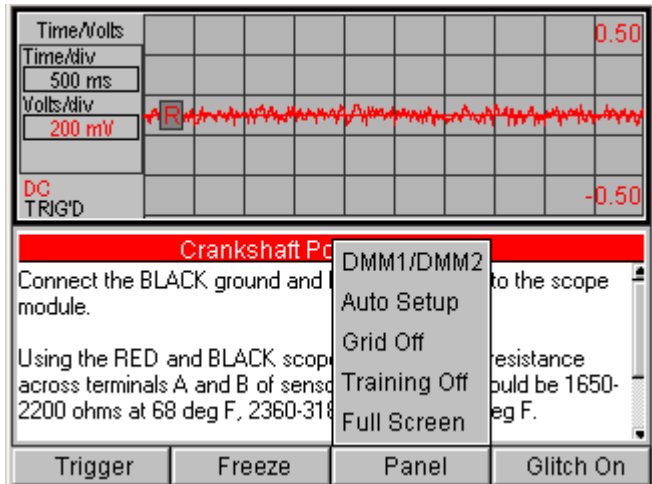
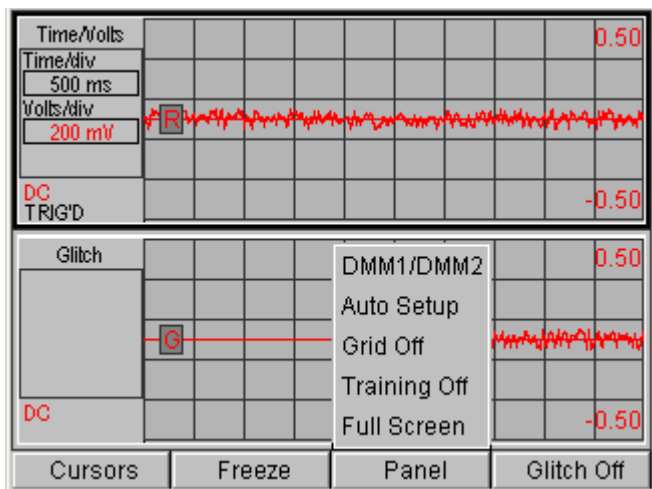
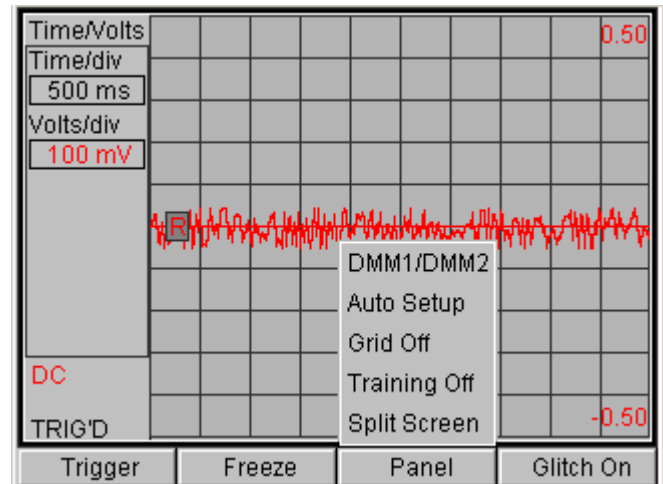

Figure 5.10: Component Test Screen - Function Keys with Waveform in Top Panel Selected
Figure 5.11: Component Test Screen - Function Keys with Glitch On
Figure 5.12: Component Test Screen - Function Keys with Waveform Selected and Displayed as Full Screen
The second group of function keys [**Trigger/ Cursors/Time Volts, Freeze, Panel, Glitch On/Off**] appears when the **top panel is selected and it contains the waveform display**, as shown in Figure 5.10, or when the top panel is selected and the Glitch panel is displayed in the bottom half of the screen, as shown in Figure 5.11. They also appear when you display a full screen waveform by using the Panel function key Full Screen option, as shown in Figure 5.12.
- Use **Panel, Full Screen** to change the split screen display to a full screen display as shown in Figure 5.12. With the full screen displayed, the menu option becomes Split Screen. Select the Split Screen option to return the display to a split screen (Figure 5.10).